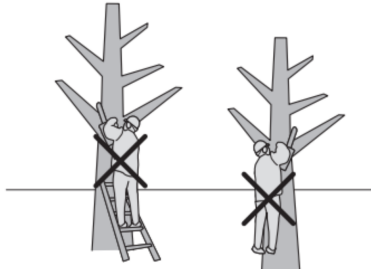

Fig. 17
6. Do not operate the mini chainsaw with arms fully extended, attempt to saw areas that are difficult to reach, or stand on a ladder while sawing (See Fig. 17).